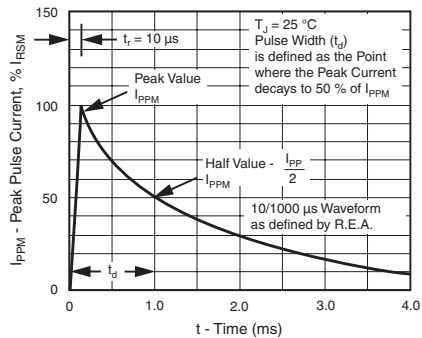
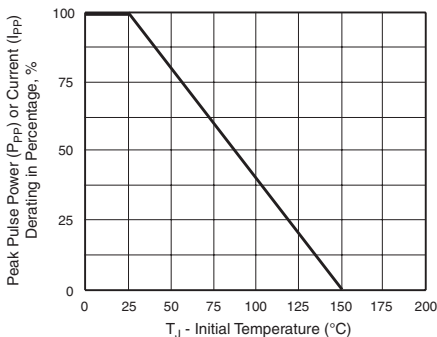

Figure 3. Pulse Waveform
Figure 2. Pulse Power or Current vs. Initial Junction Temperature
- (1) Pulse test: tp ≤ 50 ms
- (2) Surge current waveform per Fig. 3 and derate per Fig. 2
- (3) All terms and symbols are consistent with ANSI/IEEE CA62.35
- (4) For bi-directional types with VF 10 V and less, the ID limit is doubled
- (5) VF = 3.5 V at IF = 25 A (uni-directional only)